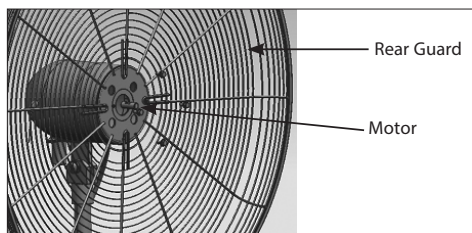

Figure 2: Attaching Rear Guard to Motor
9. Slide the rear guard onto the motor assembly and secure it with (4) flange screws (screws from the motor). See Figure 2. Tighten the screws firmly using the wrench.